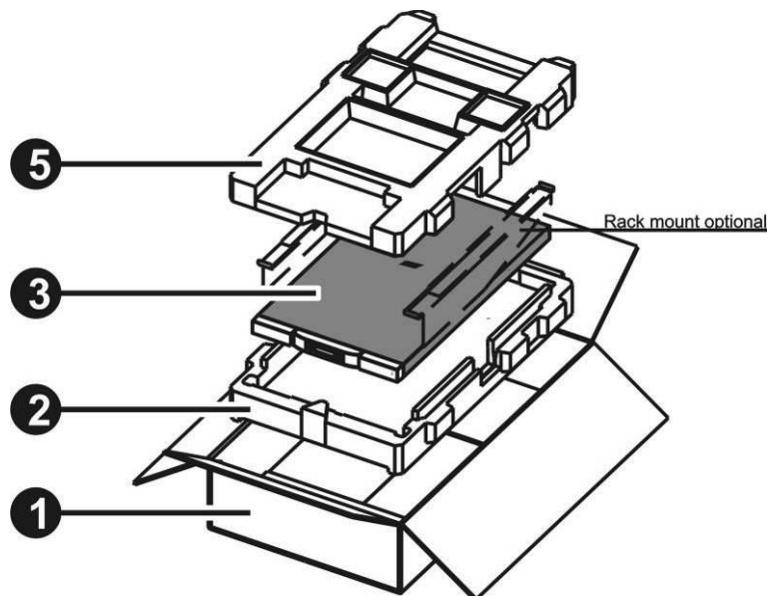

Figure 148 Packaging the library (1U and 2U)
- For 1U and 2U libraries, see **Figure 148** below, **Table 28 on Page 162**.